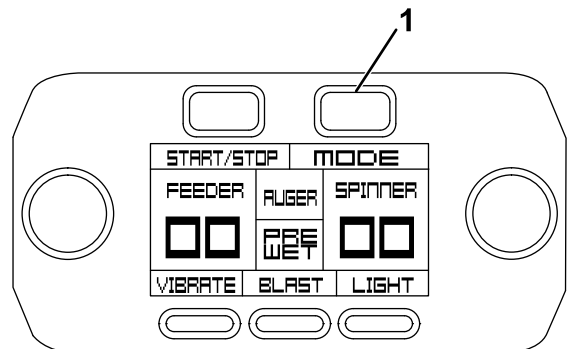

Figure 46
1. To activate the pre-wet system, press the Mode button on the controller (Figure 46).